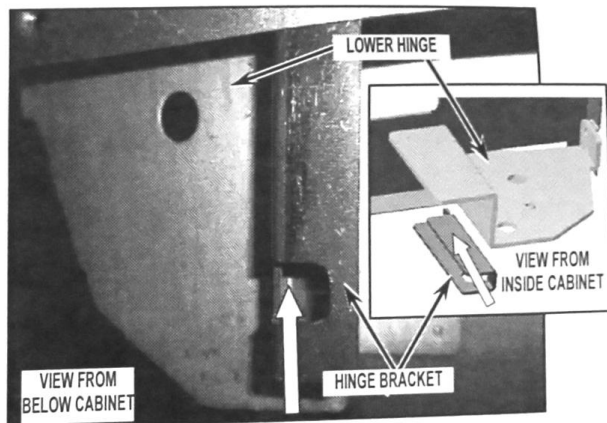

FIGURE 7
9. Insert supplied hinge bracket into the cavity behind the cabinet front as shown in Figure 7.